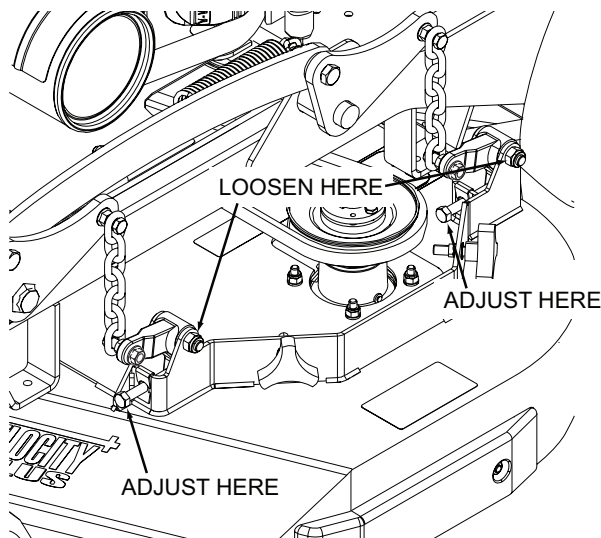

Figure 6-6. Left Side Cutter Deck Adjustment
A. Loosen the elastic stop nuts securing the deck level links on the front and rear of the cutter deck. See Figure 6-6.